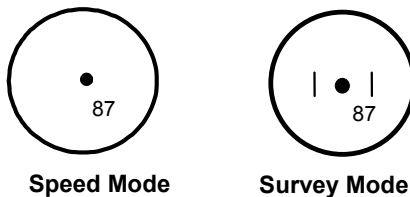

Figure 3. In-scope Aiming Dot
- In-scope measurement display. As Figure 3 shows, the appearance of the aiming dot varies, depending if the Speed Mode or Survey Mode is active. In these examples, the number '87' represents the measured value, either a speed or a distance, depending on the active mode.